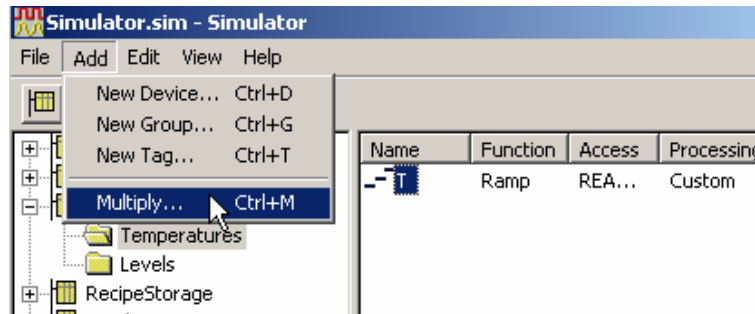

Figure 4.13. Multiplying a Base Tag
- Next, you will take this base tag and multiply it to create a series of OPC tags. To do this, first select the tag **T** by clicking on it in the right-hand window frame, then choose **Multiply** from the **Add** menu, as shown in Figure 4.13.